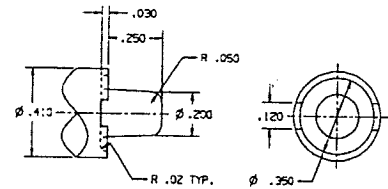

Figure 16
1. Using an Inlet Bushing Screen Installation Tool, install the Inlet Bushing Screen (23), screened end first, in the bottom (hex end) of the Inlet Bushing (22). Insert the rounded end of the tool in the cone formed by the screen and tap the end of the tool to secure the rim of the screen in the Bushing. See Figure 16.